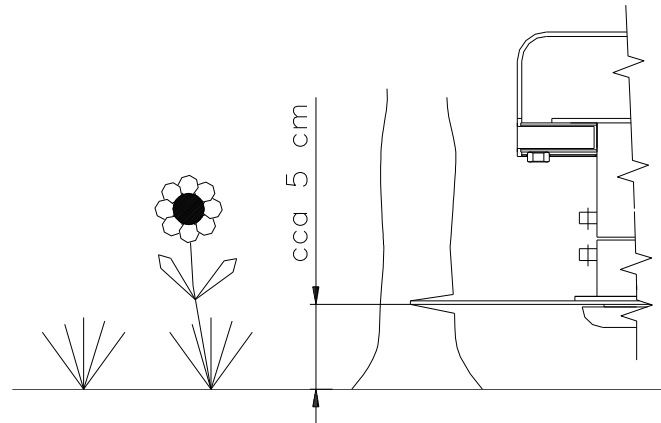

Figure 13
- Drive the saw blade slowly into the stem and cut the tree off while pushing on the machine and balancing the saw blade side reaction. (Fig. 13)